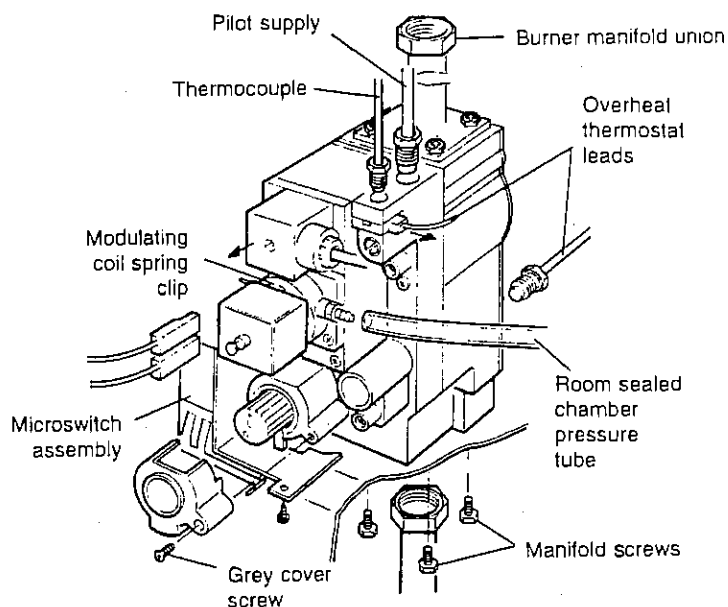

Fig. 23
8.10 GAS VALVE - Fig. 23
8.11 GAS VALVE MODULATING COIL - Fig. 23